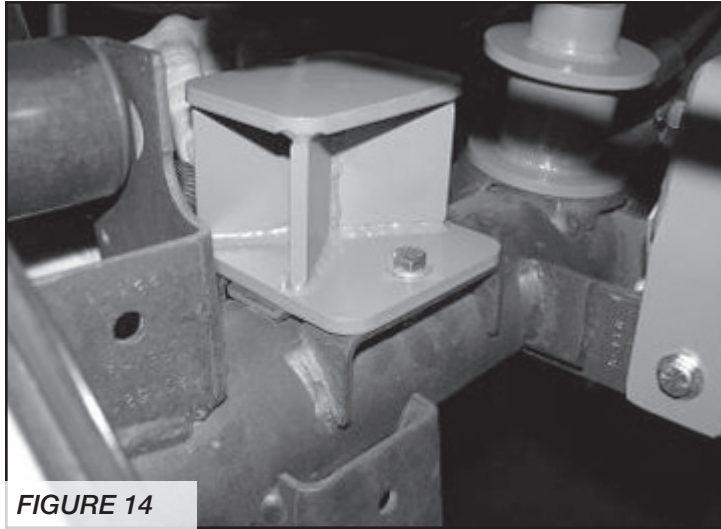

FIGURE 14
19. Locate FT50293BK Rear Bump stop Spacer. Position the spacer onto the factory bump stop pad on the axle and attach with the supplied 5/16" x 1" bolts and hardware (mount the spacer to the axle with the offset of the spacer to the front of the Jeep). SEE FIGURE 14